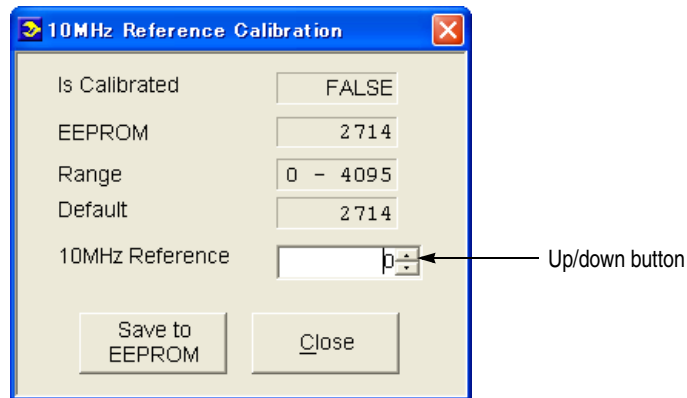

**Figure 3-2: 10 MHz Reference clock calibration test hookup**
- a. Use the 50  $\Omega$  BNC cable to connect the 10 MHz Reference Output connector on the AWG5000 rear panel to the CHANNEL 1 connector on the frequency counter. See Figure 3-2.